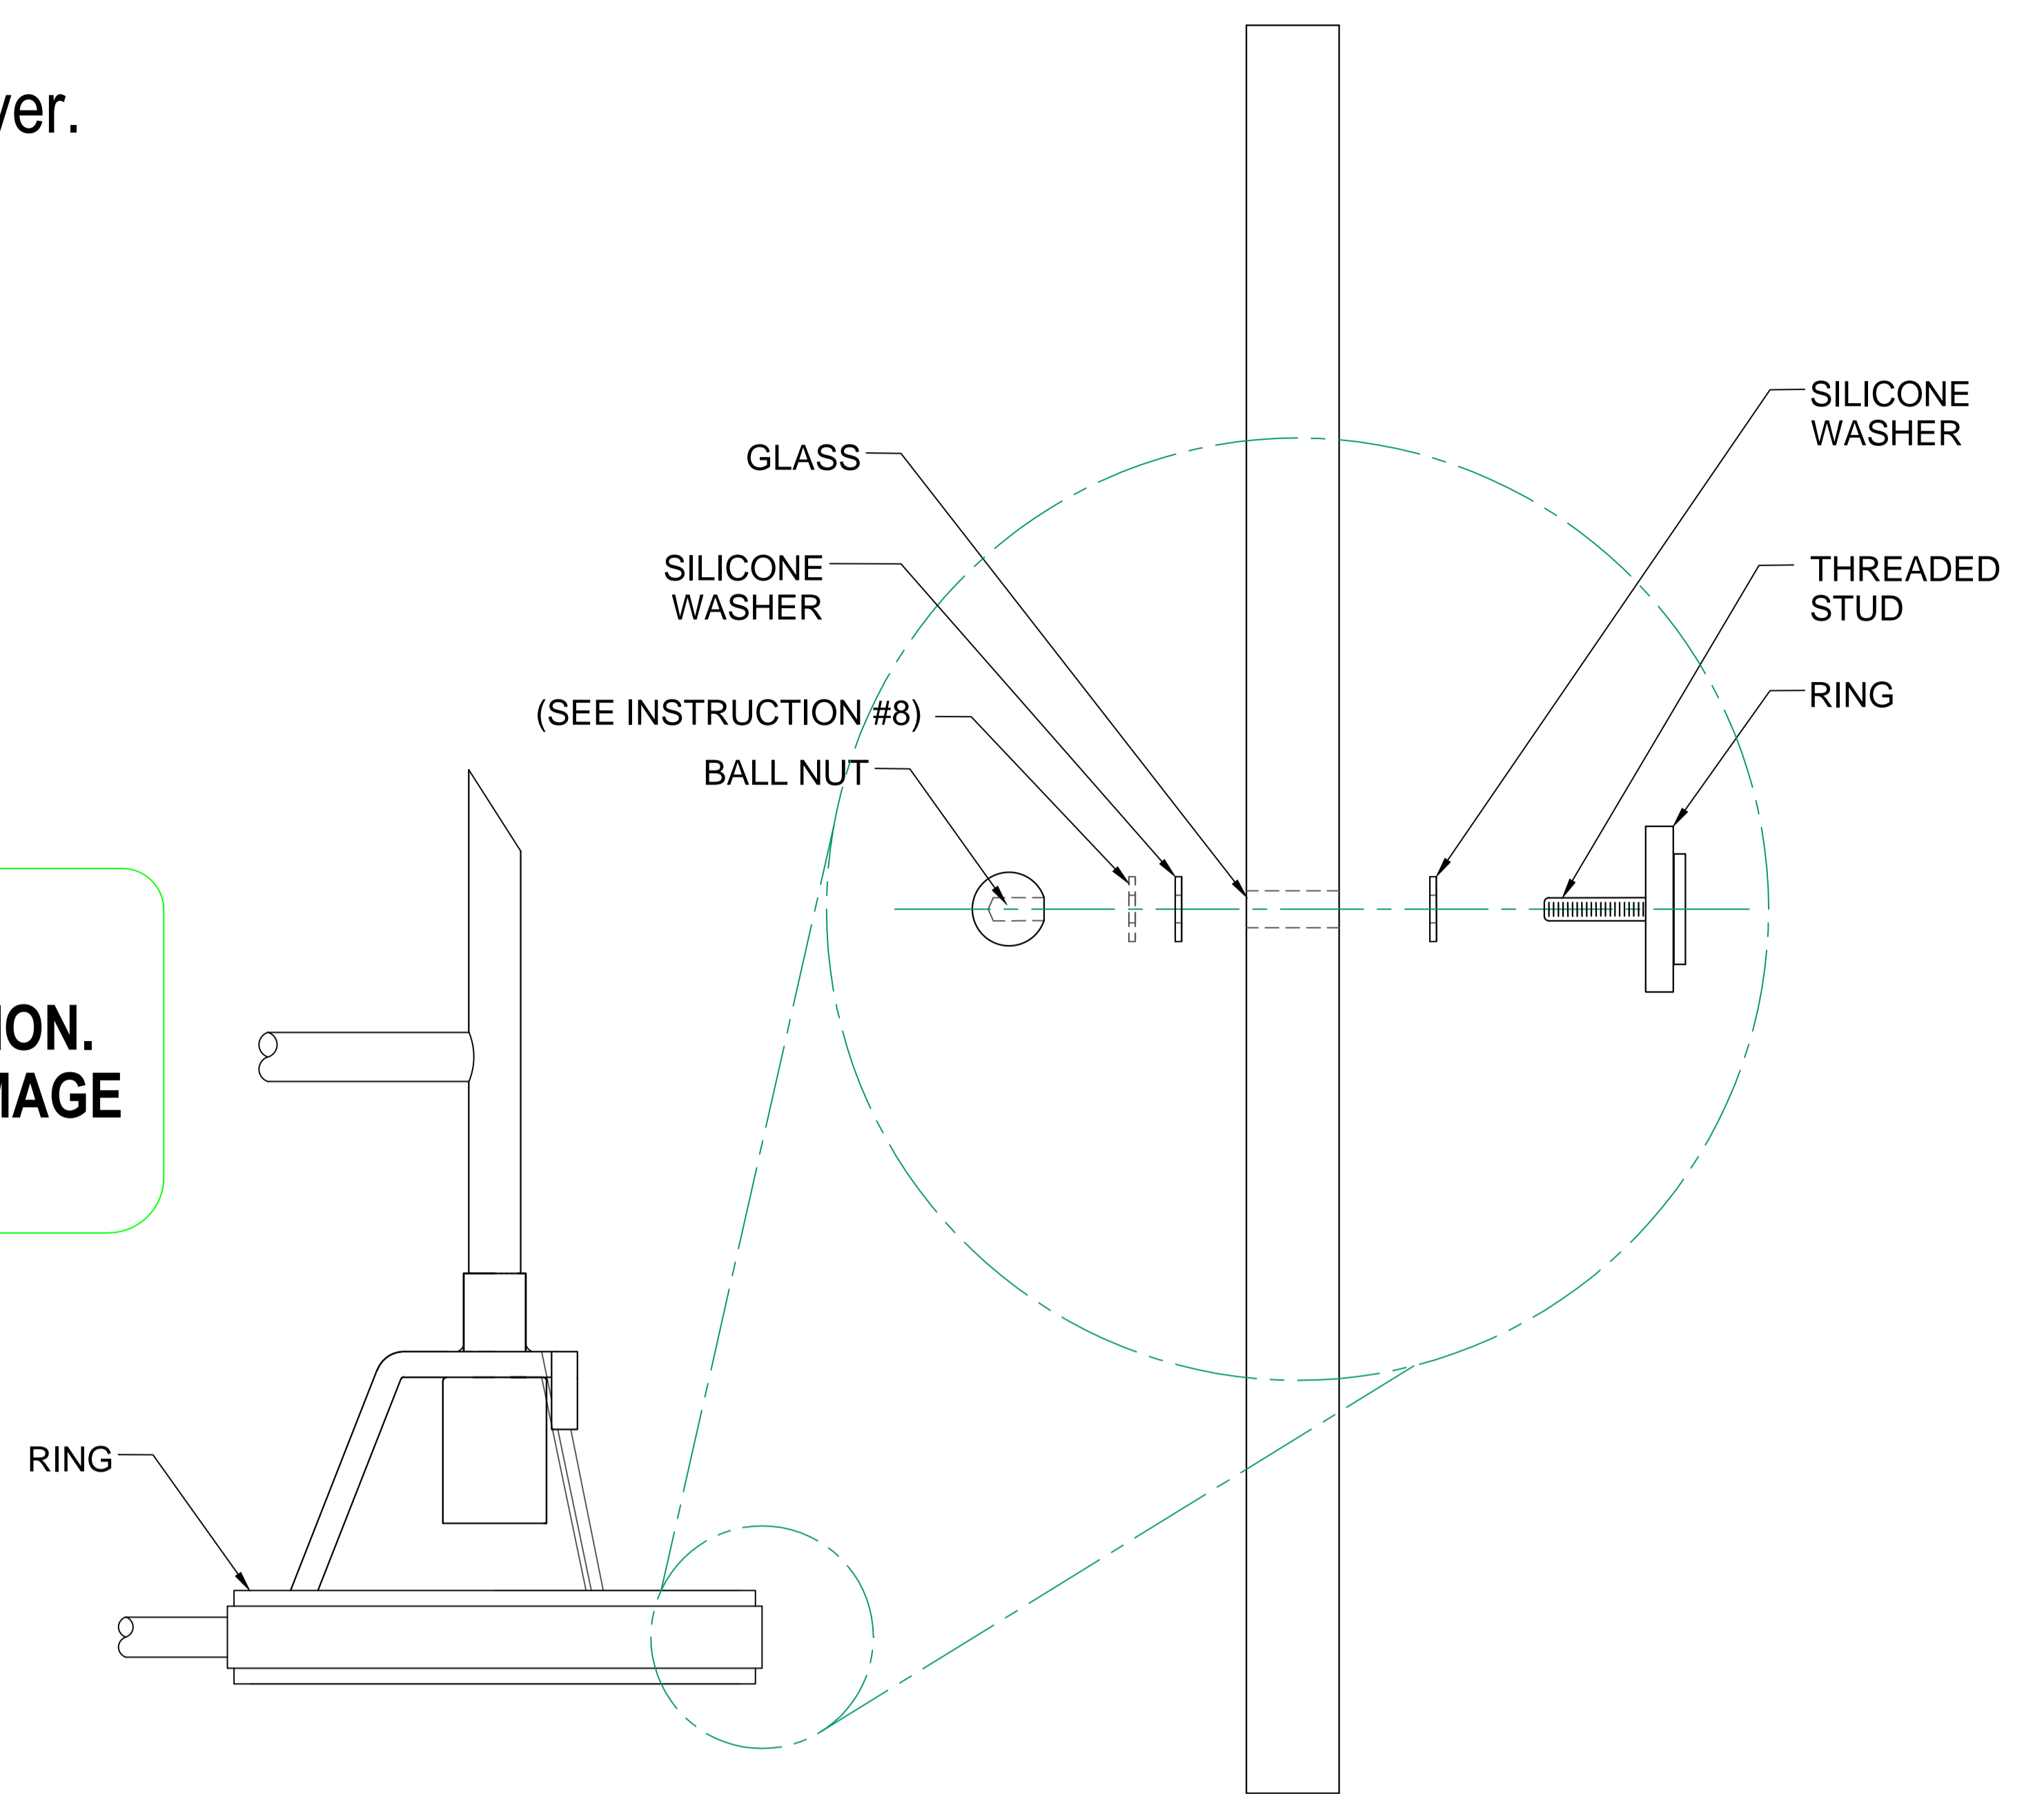

FIGURE-04
- Install glass unto the ring and secure it with silicone washers and ballnuts.(See sequence on Figure-04) If the glass is thin and loose, add an additional silicone washer.